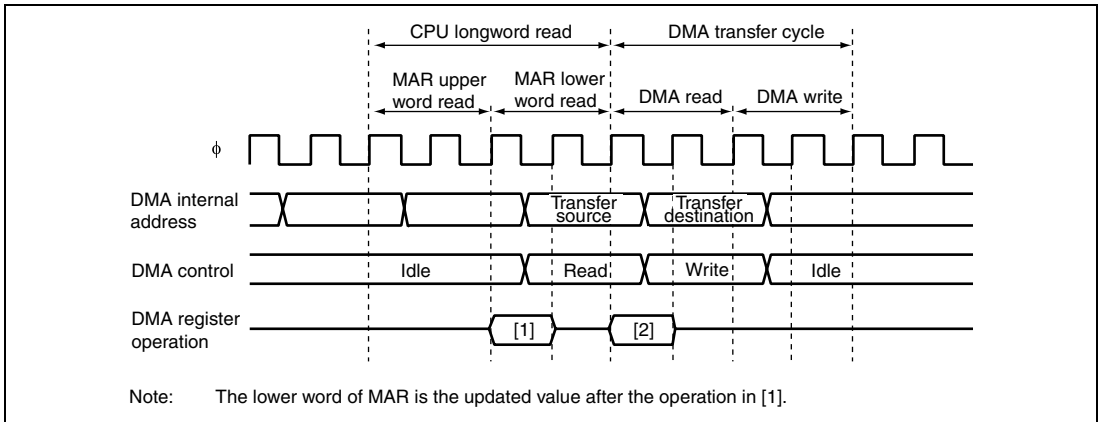

Figure 7.27 Contention between DMAC Register Update and CPU Read
2. If a DMAC transfer cycle occurs immediately after a DMAC register read cycle, the DMAC register is read as shown in figure 7.27.